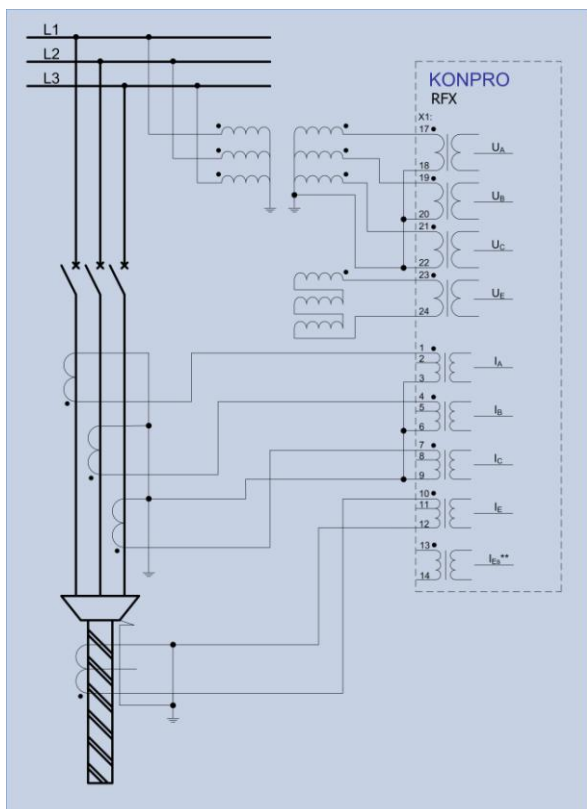

Fig. 4: Relay connection schematic RFX with ground voltage transformer
- While setting voltage protection for pickup value it is possible to choose the effect on size of linear voltage, and direct or inverse voltage component. Common relay connection options are shown on fig. 4 and 5.